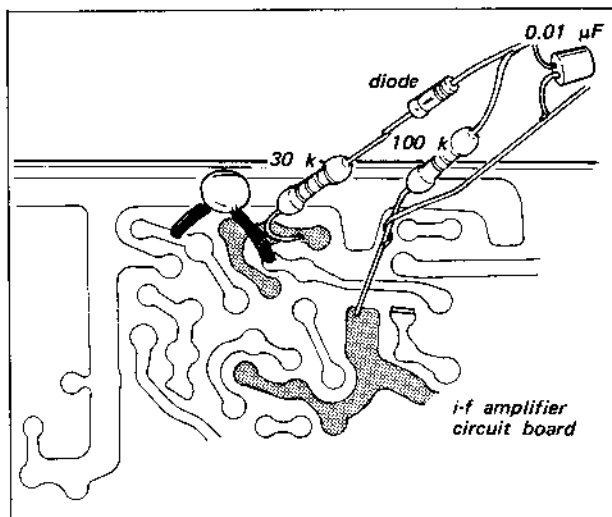

Fig. 3-2 I-f probe and oscilloscope connection
2. Solder the input leads of the i-f probe to the collector of Q6 and ground on the i-f amplifier board (as shown in Fig. 3-2), and connect the output leads of the probe to the input cable of the oscilloscope.